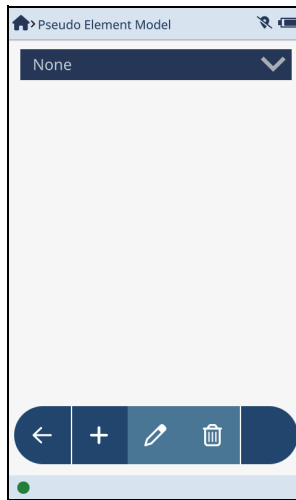

Figure 2-46 Pseudo Element Model screen
2. On the **Pseudo Element Model** screen (see Figure 2-46 on page 61), tap the **Add** button () to add a new model.